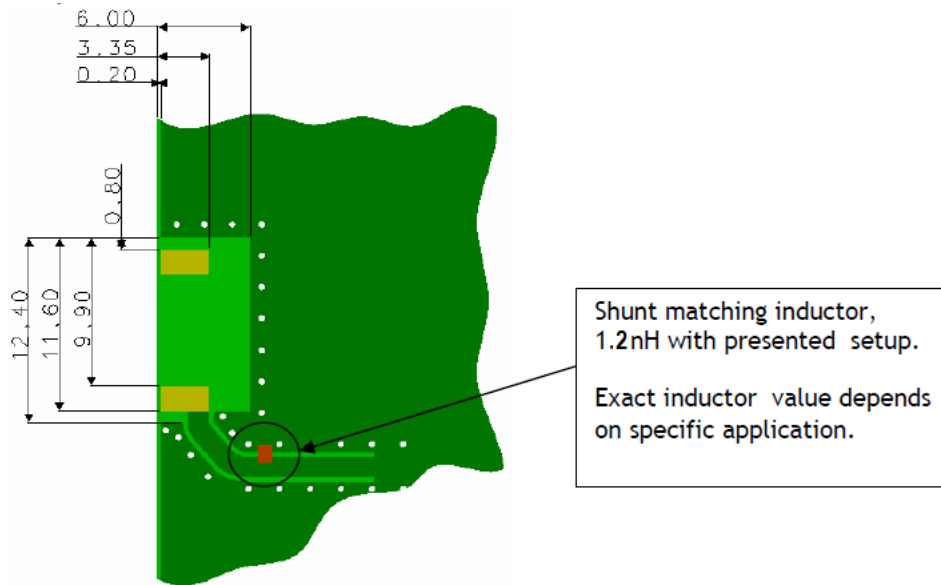
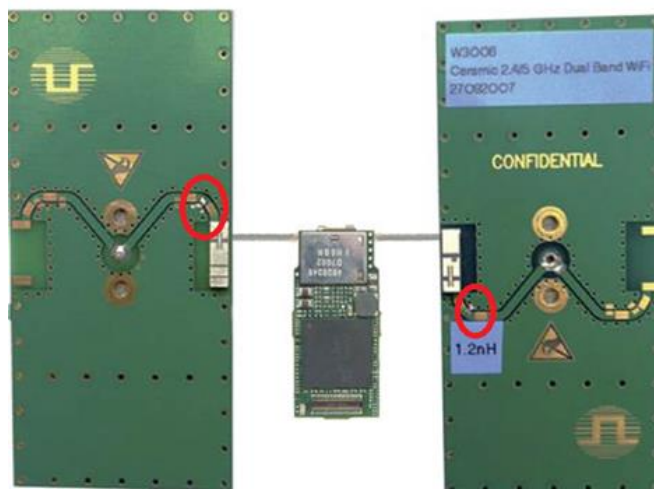

Figure 4.1: Cleared Ground Plane Guidelines
Figure 4.2: FCC Testing Image
- The ground plane must be cleared under the chip antenna for an area of 11.60 x 6.00 mm. The cleared ground plane must follow the guidelines in Figure 4.1 below (dimensions in mm).
- Top layer, bottom layer, and all inner layers should have a ground clearance area as shown in Figure 4.1.
**Note:** The 1.2uH inductor in Figure 4.1 and Figure 4.2 was used to help achieve the 50 ohm impedance matching of the feed trace and was present during FCC compliance testing. The inductor was sized based on the characteristics of the PCB including the chosen dielectric, distance in thickness of the PCB between layers and the size of the trace. Changing any of these could cause the customer to change their inductor value for optimal performance. The